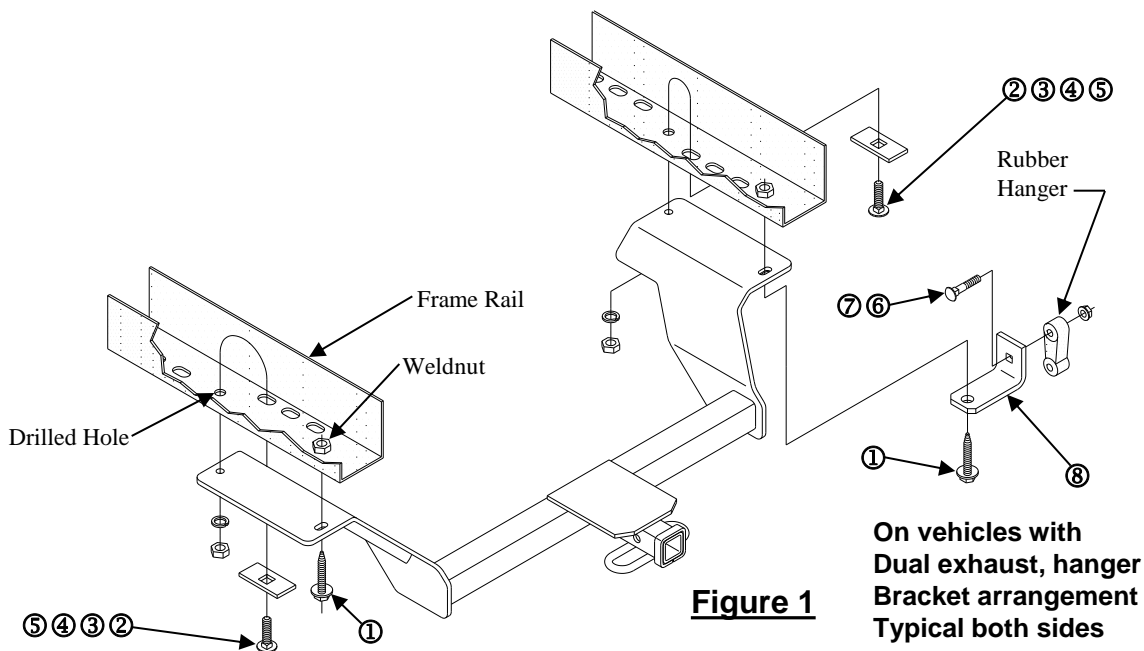

Figure 1
3. Lower hitch and fishwire carriage bolts and blocks as shown in Figure 1.
4. Raise hitch into position and install remaining fasteners as shown in Figure 1. Heat shield, if present, will be sandwiched between frame and hitch side bracket at installation.